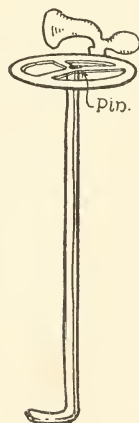

FIG. 174. — The Steering-Wheel.
**The Steering-Wheel** similar to Fig. 167, and, after pivoting it to the end of a strip of cardboard with a pin as shown in Fig. 174, bend the lower end and glue it to the under side
**Horn** like Fig. 168 and glue it to the steering-wheel as shown in Fig. 174. A strip of cardboard about the size of that used for the upright of the steering-wheel should be cut for